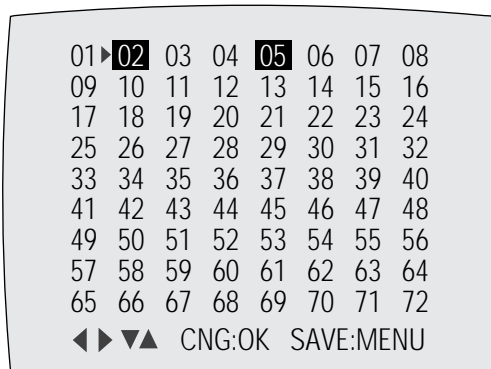

Fig. 5-5
- 2) Press the "MENU" button on the remote control about 5 seconds then option setting display is appeared. (See Fig. 5-5 and 5-6)
- 4) If selecting the option number is completed, press the "OK (PLAY)" button of remote control. (If "OK (PLAY)" button is pressed, the selected number is changes reversed color. ; See Fig. 5-5)